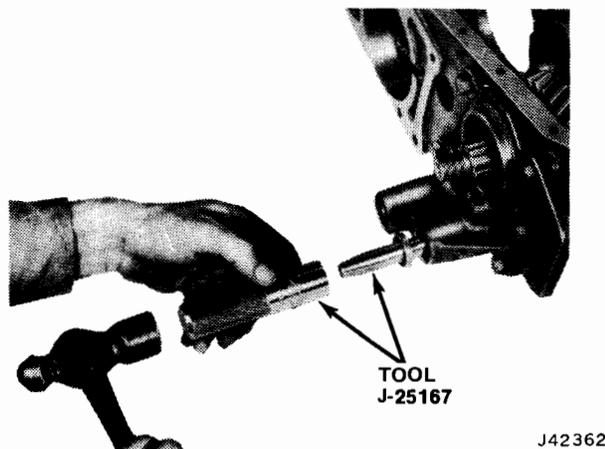

Fig. 8-7 Shift Rod Oil Seal Installation
- (3) Using thimble and Driver J-25167, install seal (fig. 8-7).
- (4) Connect transfer case shift rod control links.